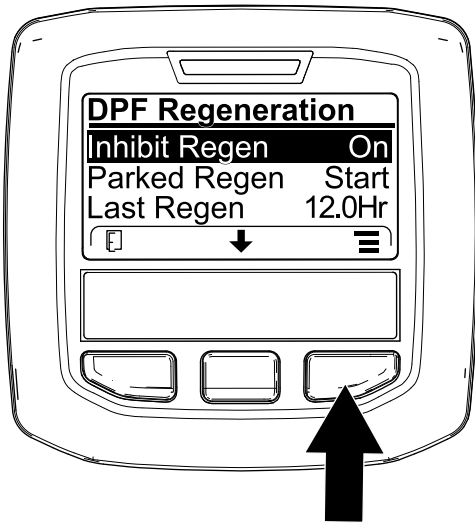
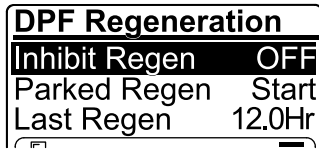

Figure 48
Figure 49
1. Access the DPF Regeneration menu, press the center button to scroll down to the INHIBIT REGEN option, and press the right button to select the Inhibit Regen entry (Figure 48).
- Press the right button to change the inhibit regeneration setting from On to Off (Figure 48) or from Off to On (Figure 49).